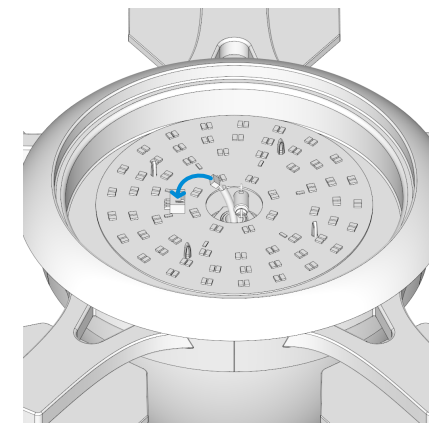

Fig. 4.2
4.2 Allow the safety rope and wire plug to pass through the light kit. Reinstall the light kit. The light kit will be magnetically attracted to the pan with the help of magnets. Insert the wire plug into the light kit terminal block as shown in Fig. 4.2.